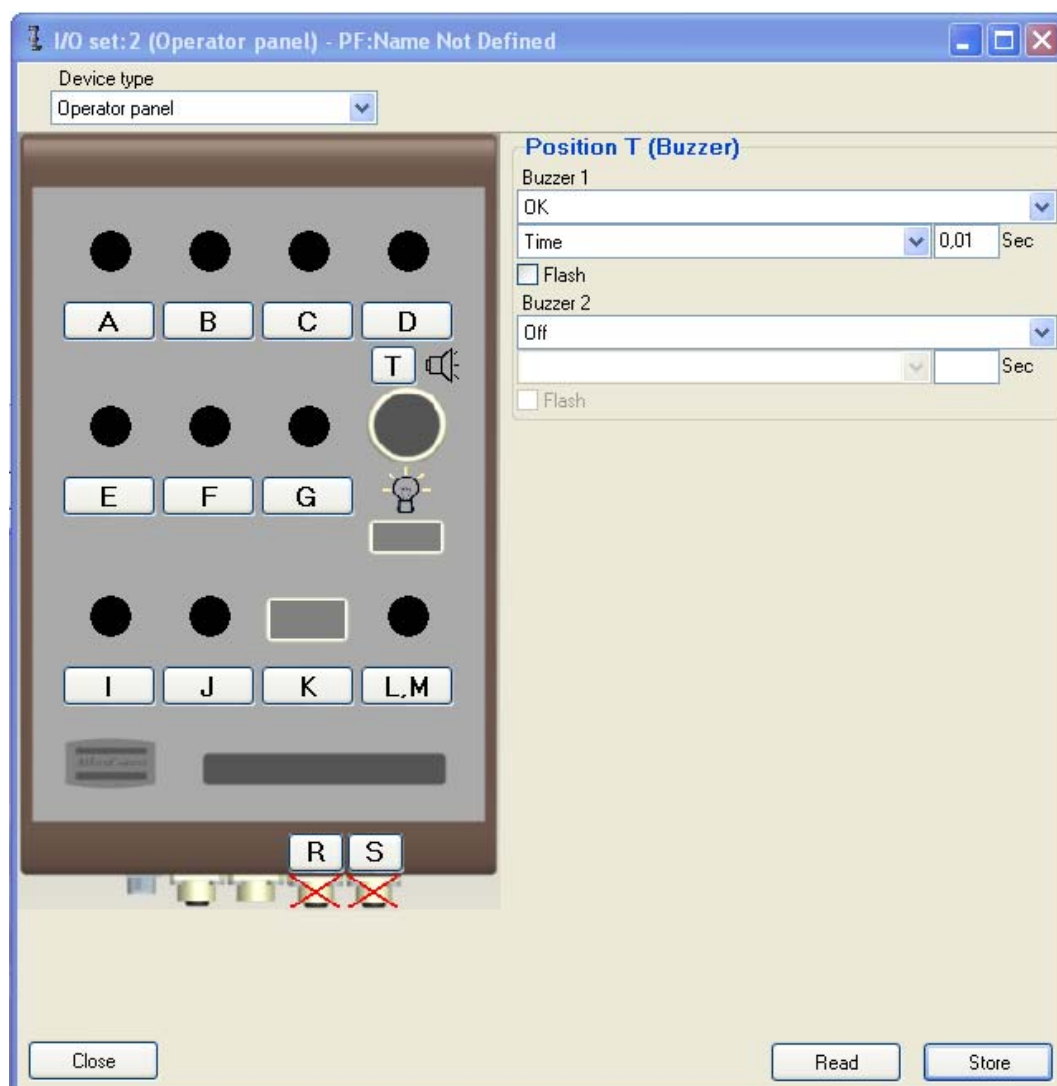

Figure 12: I/O set example
3. Click the I/O device line corresponding to the operator panel address switch setting and click **Configuration** to access the **I/O Set** dialog box (Figure 12).
6. Repeat previous step for all remaining applicable positions in the **I/O set** dialog box (Figure 12).